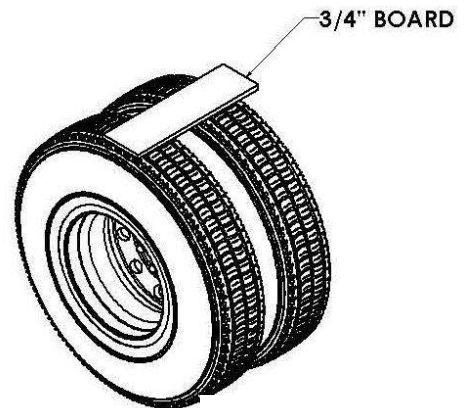

Figure 2
- a. For an air suspension system, place a $\frac{3}{4}$ " board on top of the tires after the air has been let out of the airbags (Figure 2). Place the fender on top of the board.